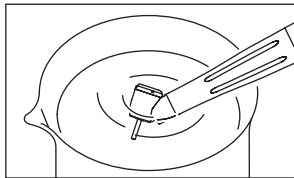

Fig. 5
- 3) Rotate the handpiece and immerse half of the handpiece head in the cup of water. (Fig. 5)